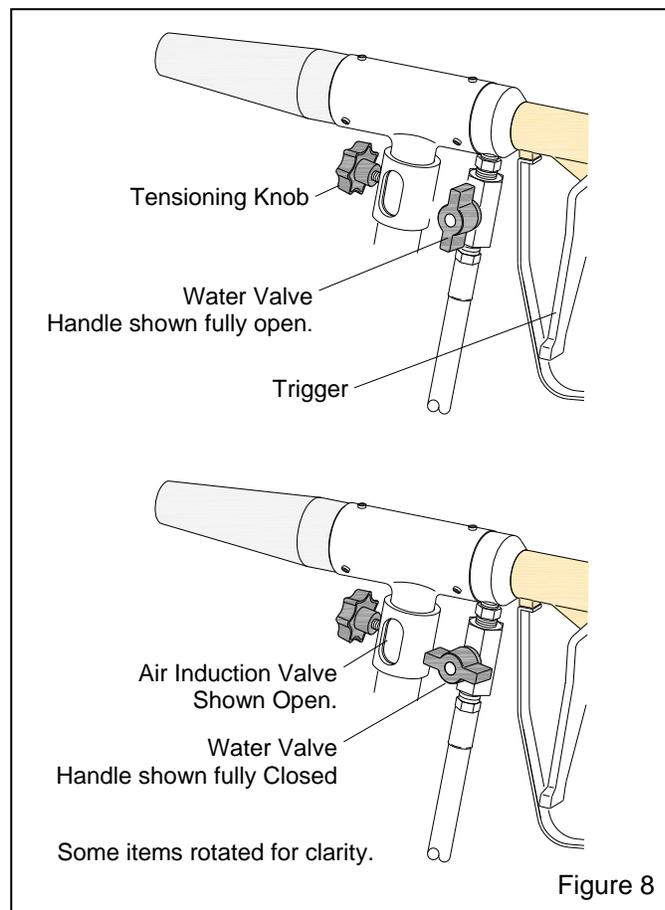

Figure 8
4.6 Wetblasting, H2O Model Only – Figure 8